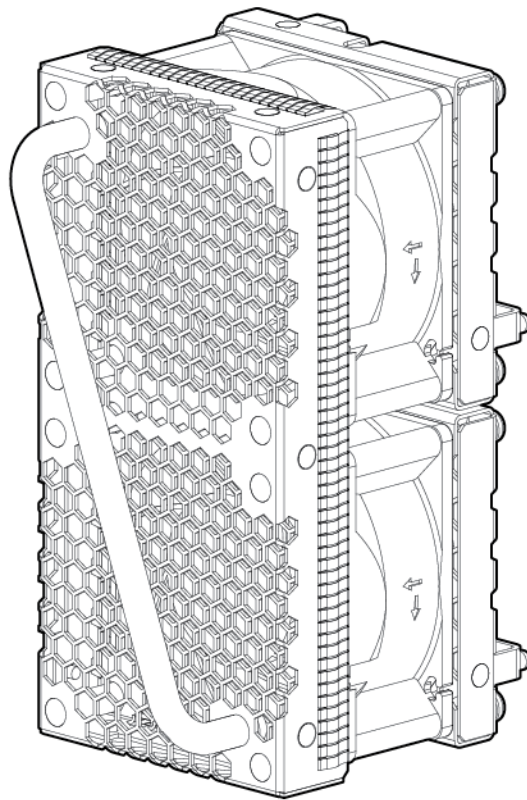

Figure 18: MC990 X server chassis rear fan assembly
2. Grasp the handle of the failed cooling fan assembly and pull the unit straight out. See **Figure 18: MC990 X server chassis rear fan assembly** on page 47 for an example of the chassis fan assembly.